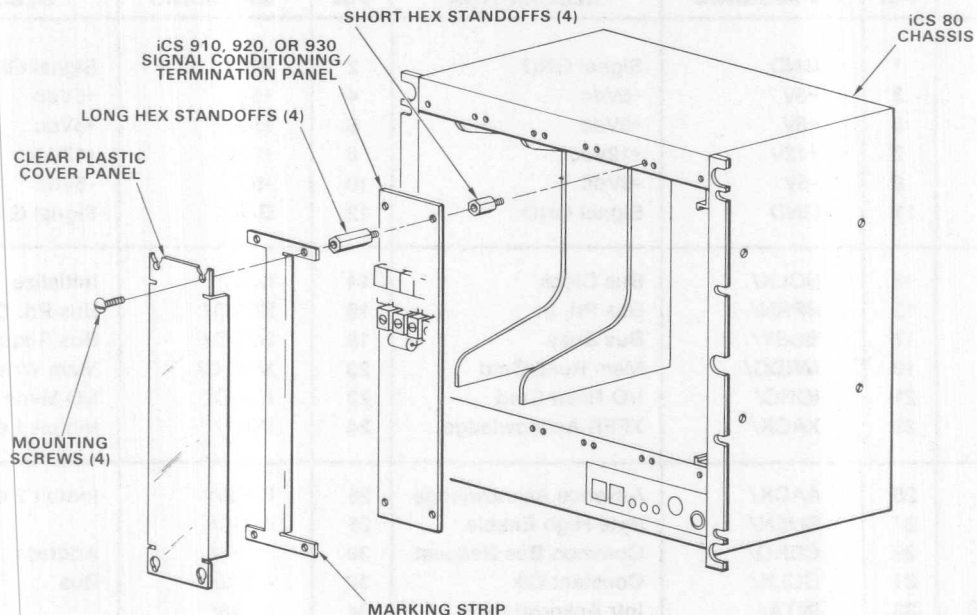

Figure 2-9. Signal Conditioning/Termination Panel Installation
- 2) Secure the four standoffs to the front of the iCS 80 Chassis; two on the top and two on the bottom. Reference figure 2-9.
If filler panels are mounted on the chassis, you must remove them before installing the signal conditioning/termination panels. Included in the installation kit is an optional marking strip, plastic cover, and long standoffs that may be installed as shown in figure 2-9.